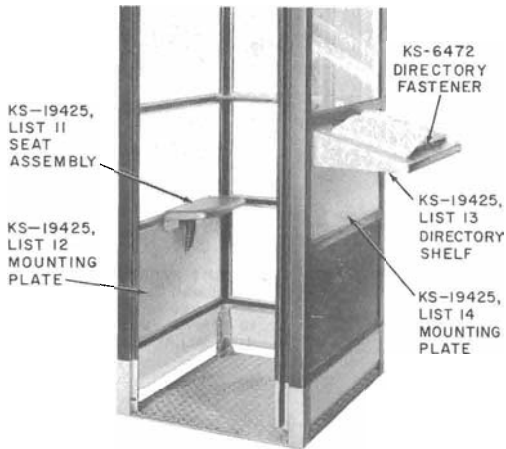

Fig. 5—KS-19425, List 11 Seat Assembly, KS-19425, List 13 Directory Shelf, and Associated Mounting
2.12 Shelf assemblies, directory racks, and associated apparatus are listed in Table D and shown in Fig. 5 through 7.
2.13 A KS-19425, List 11 seat assembly (Fig. 5) may be used if desired.
2.14 A KS-19425, List 12 mounting plate (Fig. 5) must be used for mounting the seat.